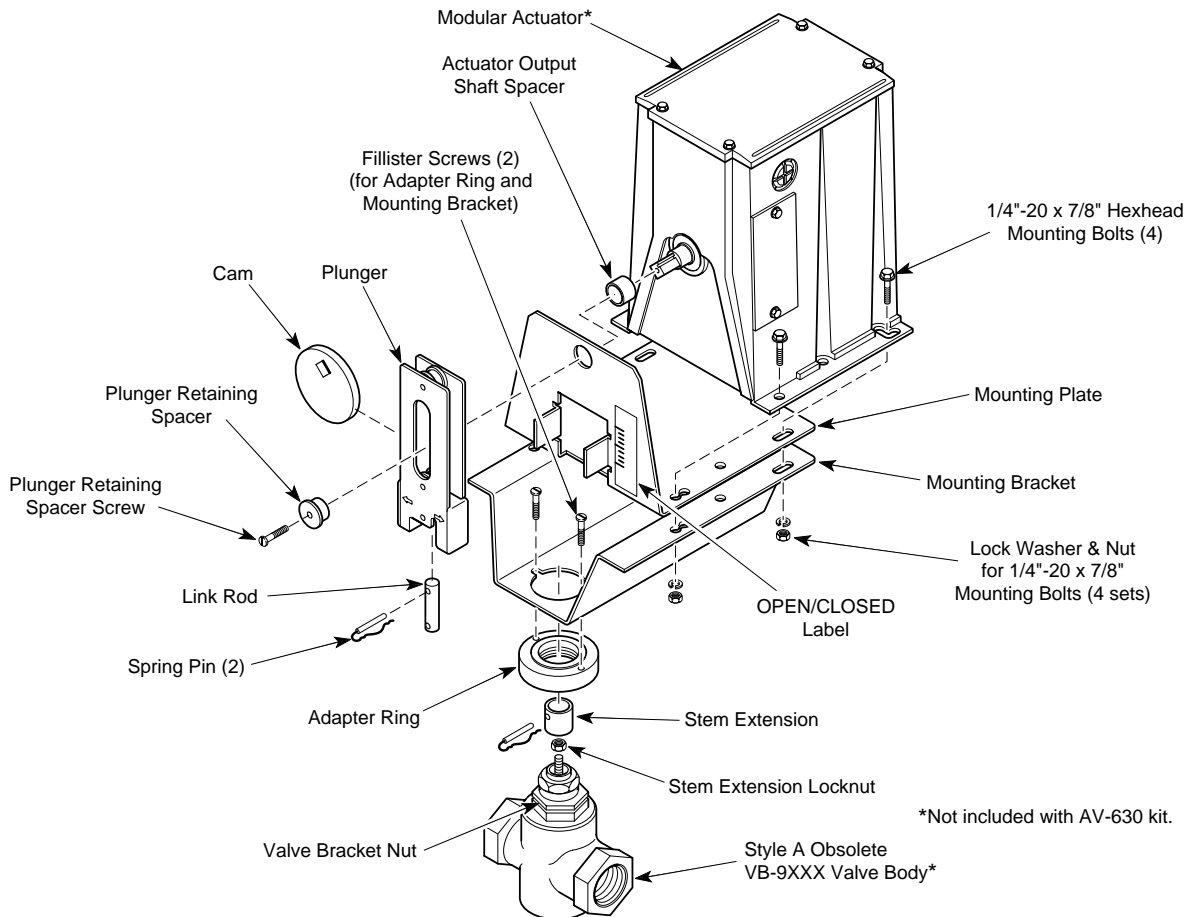
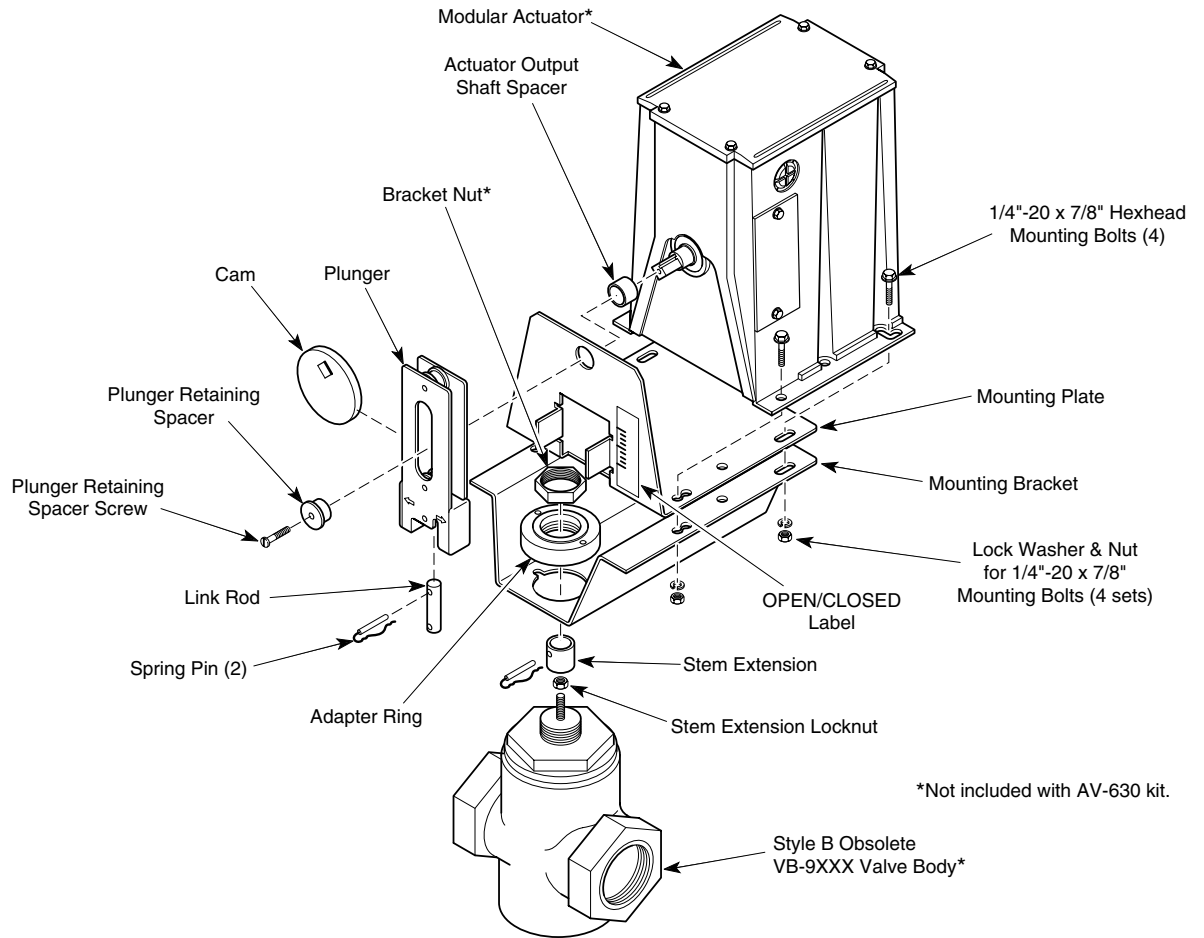
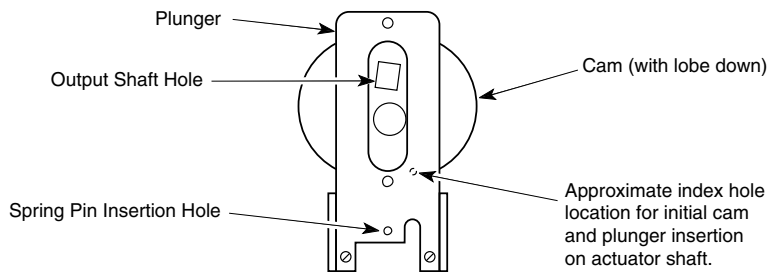

Figure-3 Assembly of AV-630 or AV-630-020 Valve Linkage with Style A Obsolete VB-9XXX Valve Body.
Figure-4 Assembly of AV-630 or AV-630-020 Valve Linkage with Style B Obsolete VB-9XXX Valve Body.
Figure-5 Initial Cam Installation Position for Valves Assembled to the "Load, Normally Closed-CCW Spring Return" or "Load" End of MM-400/500 Series Actuators.
See Table-2, Figure-3, Figure-4, and Figure-5.
3. For style A VB-9XXX valves only, place the adapter ring on the underside of the valve mounting plate. See Figure-3.
4. For style A VB-9XXX valves only, insert the two 1/2" long fillister head adapter ring screws through the ears of the mounting plate adapter hole and into the adapter ring, and secure. See Figure-3.
10. With the word "POSITION" marked on the bottom of the plunger facing the installer, insert the cam into the plunger *with the cam part number facing the installer*. The cam square shaft hole must be located on the top of the plunger slot and the index hole located as shown in Figure-5.